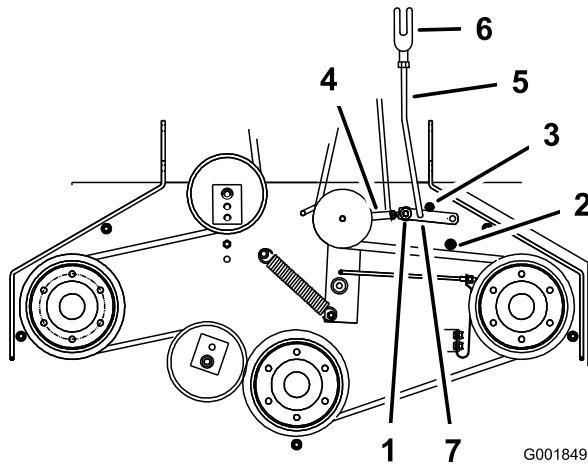

Figure 50
5. Make sure the assist arm is against the rear assist arm stop on the deck (Figure 50).
7. The assist arm should contact the front assist arm stop on the deck. If it does not contact, adjust the bellcrank so it is closer to the gusset (Figure 50).
8. To adjust the assist arm link, remove the hairpin cotter pin from the assist arm (Figure 50).
11. Install the assist arm link into the assist arm and secure it with the hairpin cotter pin (Figure 50).